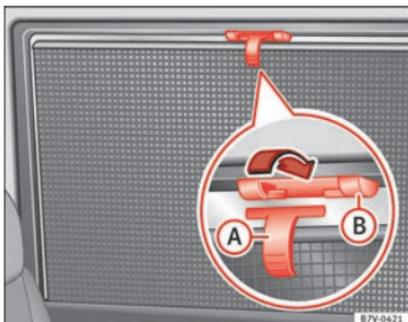

Fig. 143 On the rear right-hand window: sun blind
- Pull the sun blind by the handle » **Fig. 143** **A** up to the top.